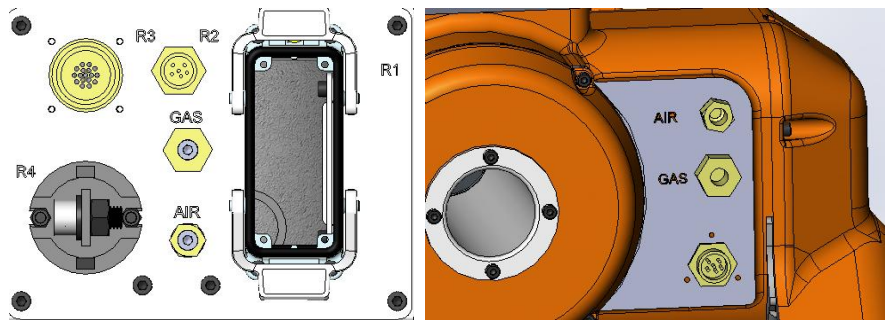

Figure 3.11 SA6/1440H air pipe and IO interface diagram
6. SA6/1440H air pipe and IO interface are shown in Figure 3.11. Note: GAS is phi 8 air pipe, AIR is phi 6 air pipe, maximum air pressure is 0.8Mpa, R3 represents IO connector,